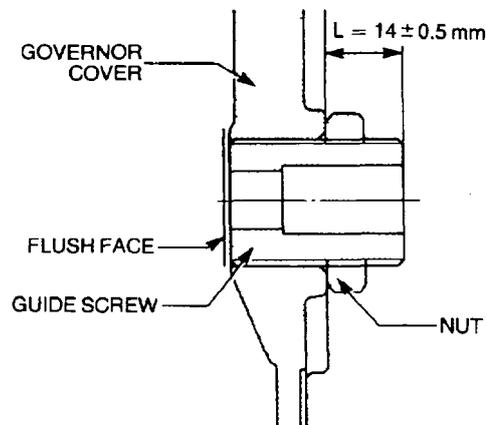

Figure 120 Governor Shaft Guide Screw Adjustment
- q. Check that the governor shaft guide screw protrudes 13.5 to 14.5 mm from the governor cover (Figure 120) and adjust as necessary. Tighten the locknut to 39 to 48 N.m (29 to 36 lbf.ft).